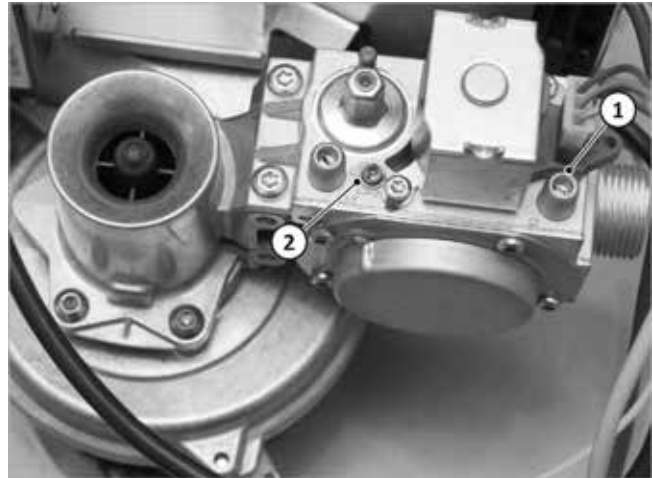

Fig. 115: Setting the burner
- The measurement connection is used to check the gas’ flow pressure when the burner is in operation → fig. 115 (1).